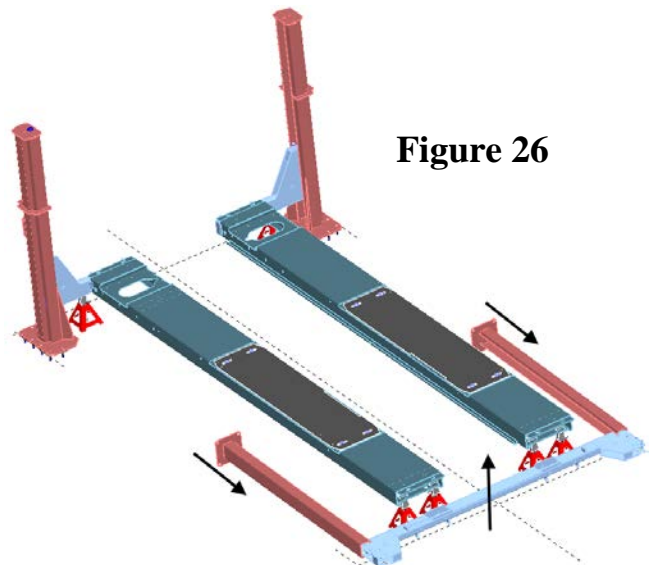

Figure 26
- Push towers toward the back and gradually lift cross-member (**Fig.26**).